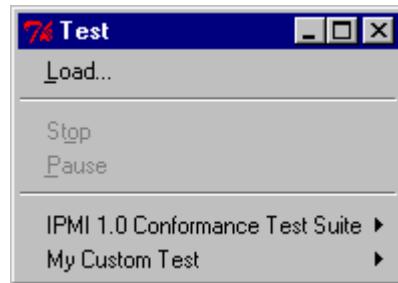

Figure 3-8. Test Menu Showing Loaded Custom Test
- **L**oad. . .—Presents a dialog to allow selection and loading of a test module. This menu item remains dimmed until a target configuration file (or in some cases only a platform configuration file) is successfully loaded. For each loaded test, an item is added to the test menu. Figure 3-8 shows the **T**est menu with a custom built test named, “*My Custom Test*” loaded: